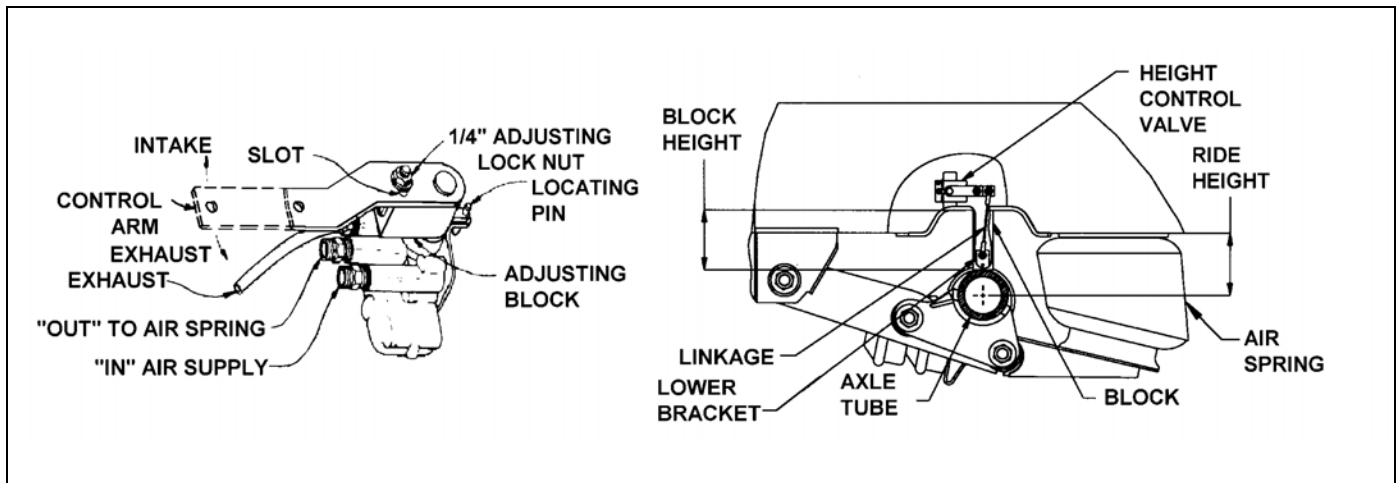

Figure 4-4: Air Ride Height Adjustment
(See Figure 4-4 for parts identification)
2. Disconnect linkage at the control arm and raise control arm to the "up" position, raising the trailer until a block can be placed between axle tube and undercarriage frame (**See Figure 4-4.**)
6. Loosen the 1/4" adjusting lock nut located on the adjusting block, allowing the control arm to move approximately 1 inch. Move the adjusting block until holes align, then insert locating pin **(See Figure 4-4.)**